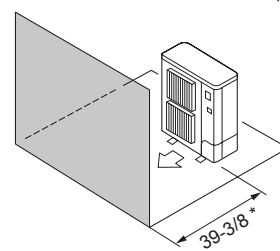

Fig. 2-9
④ Obstacles at front (Fig. 2-9)